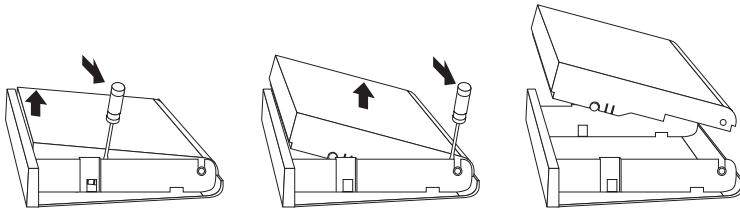

Figure 4-9. Media Console Bottom Cover Removal
- Press in the tabs on the left and right sides of the bottom cover as shown in Figure 4-9.
- Pry out the bottom cover at the pivot as shown in Figure 4-9 and raise upward to release the Media Console from the bottom cover.